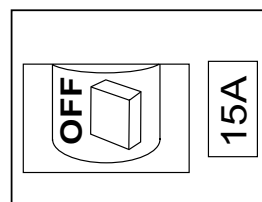

Figure 27. AC Circuit Breaker (OFF)
1. Place AC circuit breaker (Figure 27) in the **OFF** position